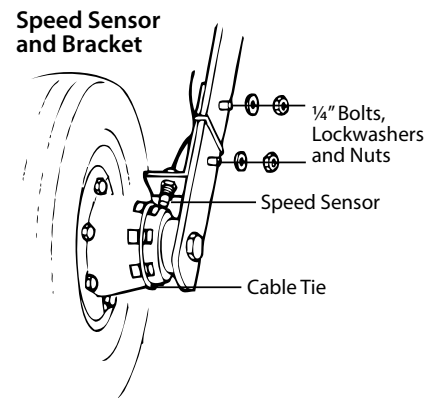

Figure 25
3. Install sensor, adjust to correct spacing ($\frac{1}{4}$ " to $\frac{1}{2}$ " or 6 to 13 mm is recommended), and secure with $\frac{3}{8}$ " locking nuts. See Figure 25.